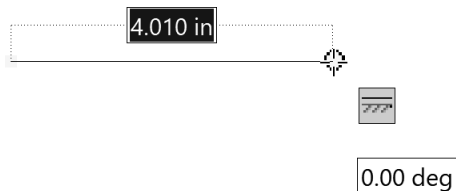

Figure 2.29
- 4 Click on the origin point in the graphics window, move the cursor to the right about **4 inches**, and when the horizontal constraint symbol displays, click to specify a second point as shown in Figure 2.29. You may need to zoom back and pan the screen to see the entire line.